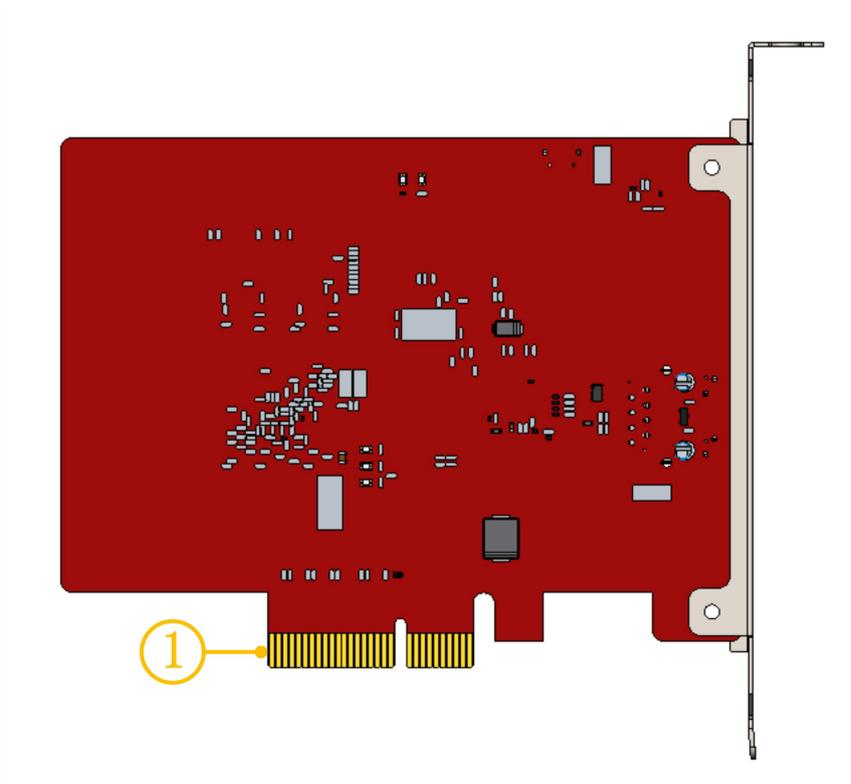

Figure 6 Gold Fingers
BMC228A PCIE socket is X4 (Figure 6①)and can be used for X4, X8, X16. Its PCI Express Protocol standard is V2.0 (Gen2) and the BMC228A motherboard requirements are as shown in Table 2-3.